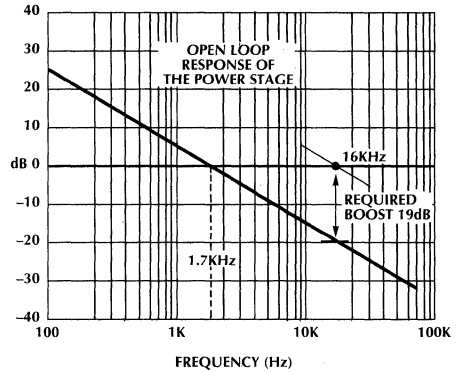

Figure 12. Open loop response of the power stage, and required boost for 16KHz loop crossover.
The design of the current loop is one of the most critical tasks in the overall design. To do that we have to have knowledge of the open loop response of the power stage. Equation (12) gives this response which is plotted in Figure 12.